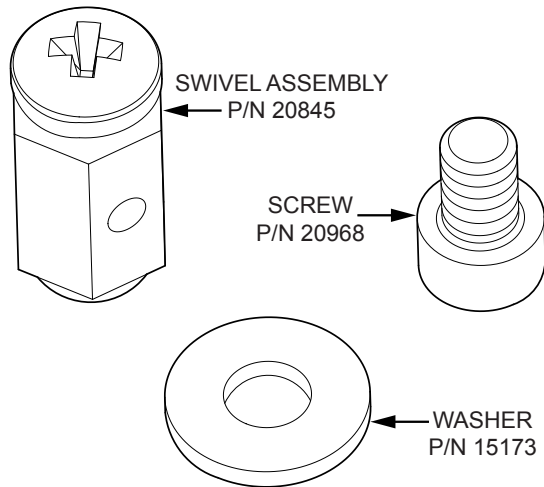

Figure 15. Throttle Cable Swivel Disassembly
- Remove the screw (P/N 20968) and washer (P/N 15173) from the throttle cable swivel assembly (P/N 20845). See Figure 15.